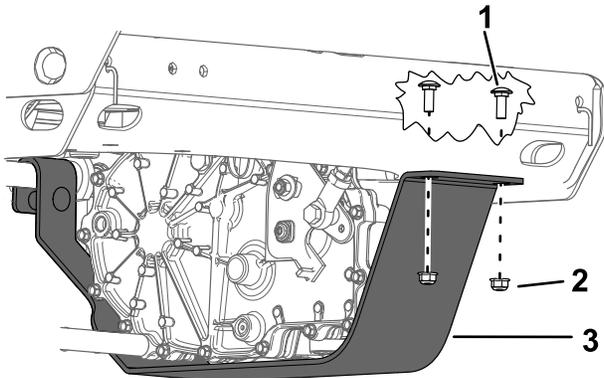

Figure 64
2. Bolt (2)
5. Remove the 2 bolts and nuts from both transaxle guards (Figure 64).
8. Pivot the transaxle guards up and secure both with 2 bolts and 2 nuts (Figure 64).